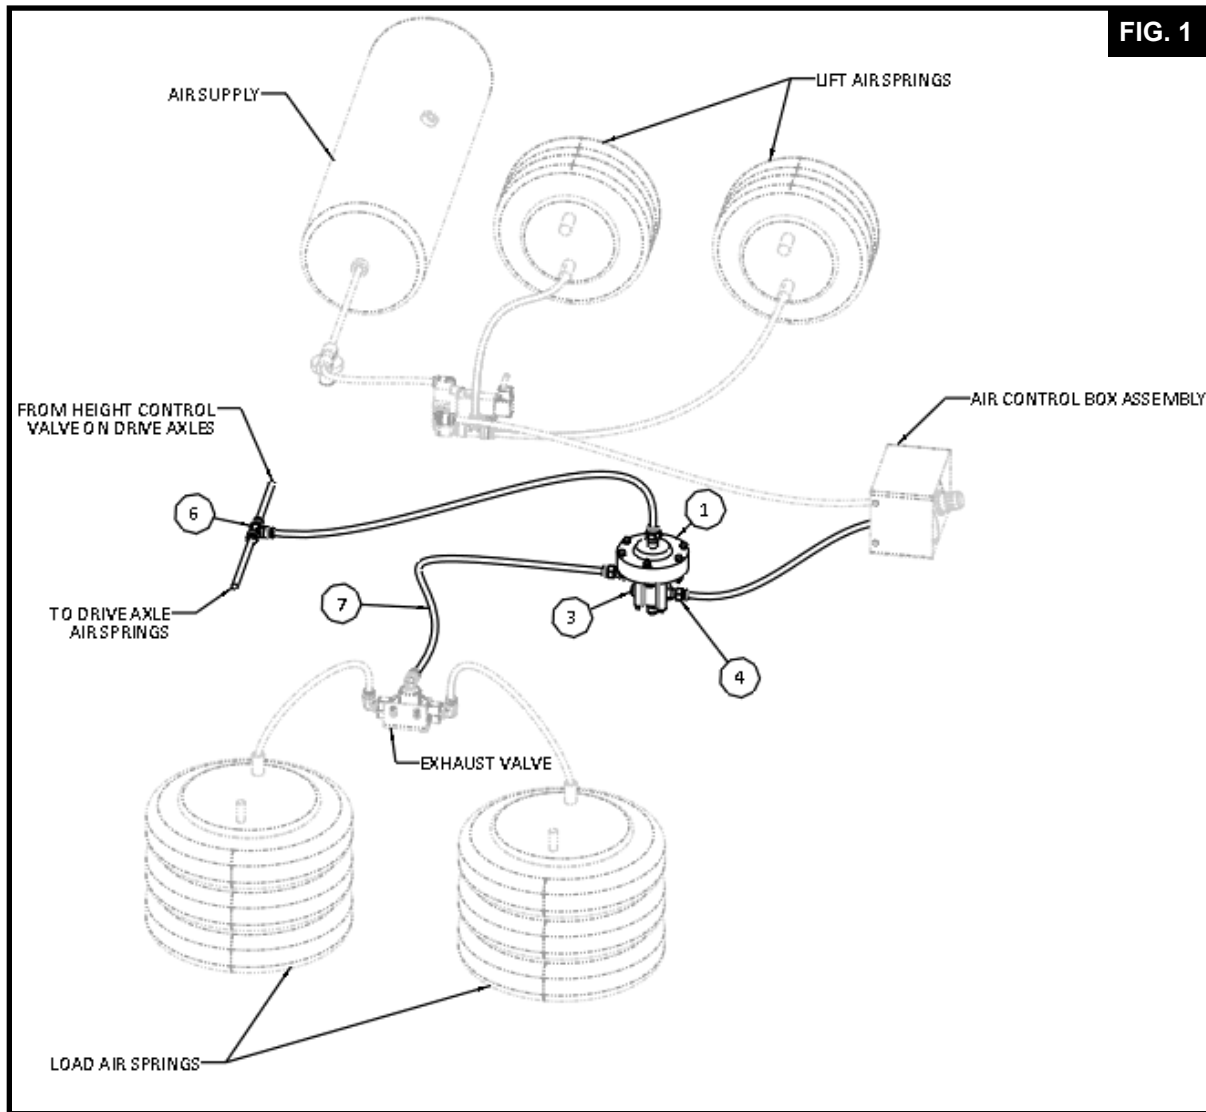
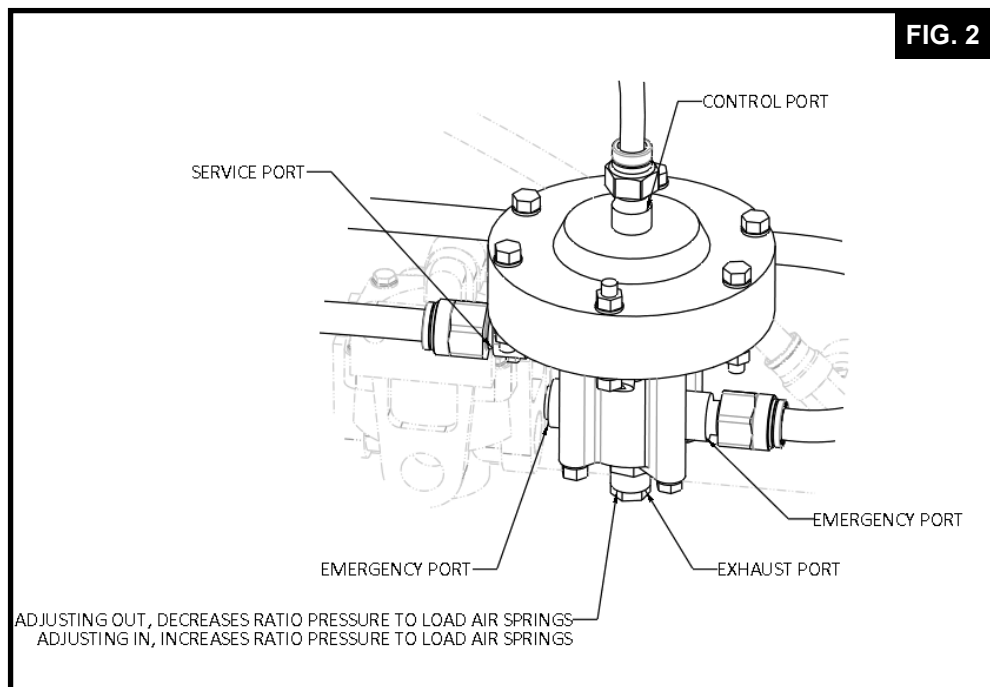
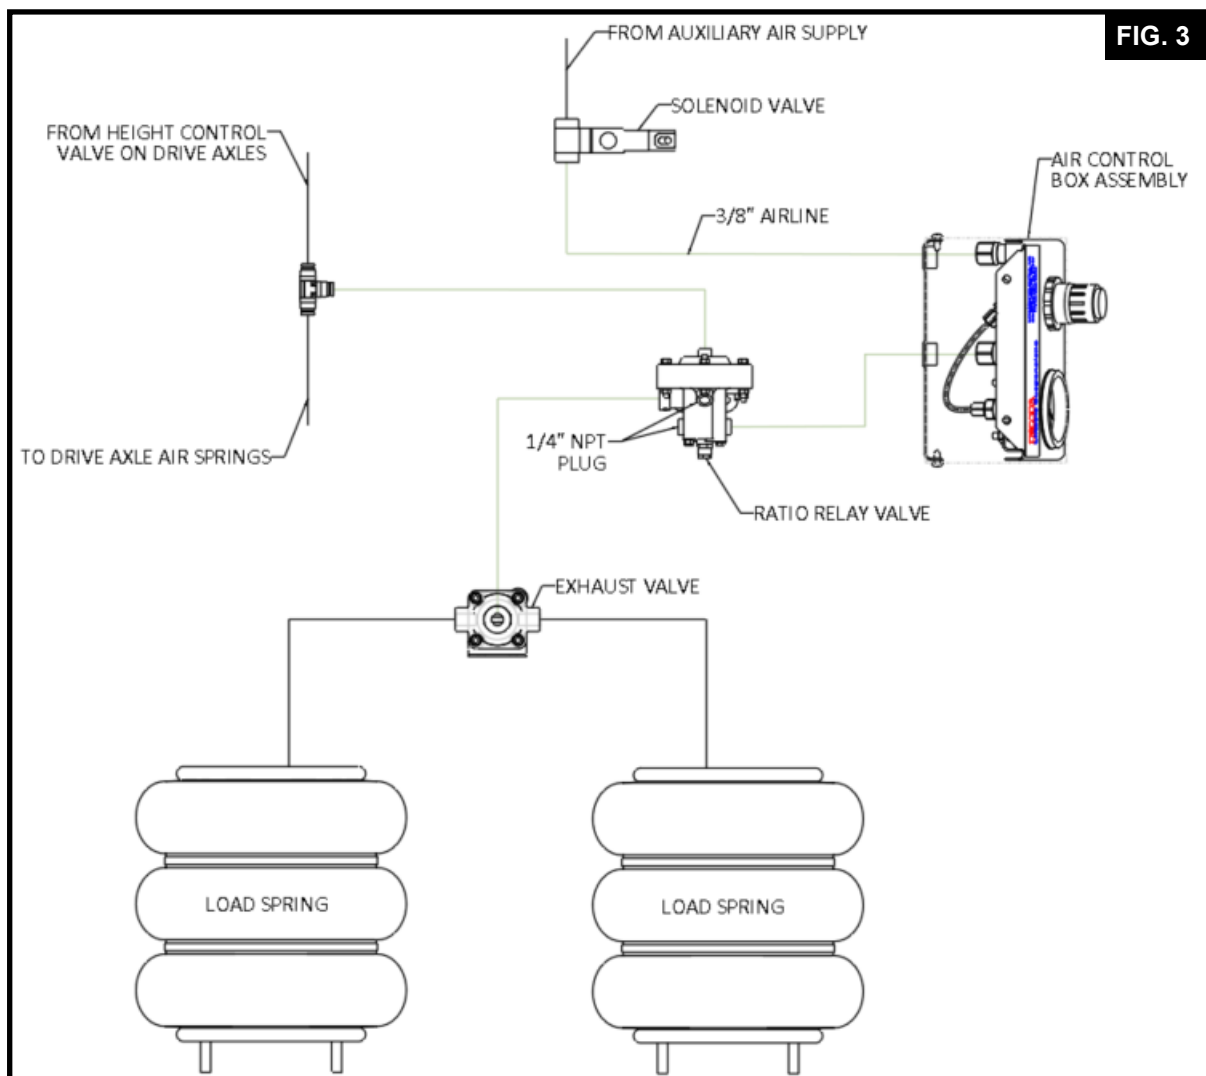

Fig.1: Ratio Relay Solenoid Valve Routing
Fig 2. Ratio Relay Port Designations
Fig 3: Solenoid Ratio Relay Valve Airline Routing
PLUMBING INSTRUCTIONS—Refer to FIG. 1, FIG.2, FIG. 3, and Parts List for Details
1. Plug gage port and one emergency port (see FIG. 2 for Relay Port Information) on ratio relay valve using 0.25" Plug (2X Item #3).
GT VALVE RATIO RELAY CONFIGURATION**PLUMBING INSTRUCTIONS—Refer to FIG. 2, FIG.4, FIG.5, and Parts List for Details**
1. Plug gage port and one emergency port (see FIG. 2 for Relay Port Information) for on ratio relay valve (1X Item #1) using 0.25" Plug (2X Item #3).